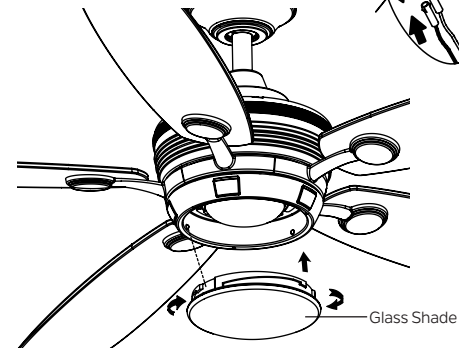

Fig. 24
**Step 3.** Secure the glass shade to light plate by turning in a clockwise direction. Twist the glass shade gradually until it snaps on to the light plate. DO NOT OVER-TIGHTEN. (Fig. 24)